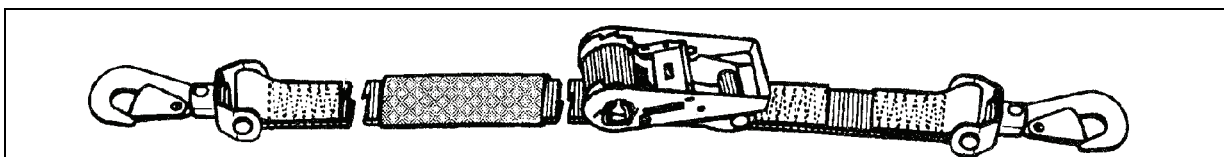

Figure 8-40. Special Webbing Strap (P/N 9392419)
- **Special Webbing Strap.** The 5,000-pound capacity special webbing strap (Figure 8-40) is similar to the CGU-1/B cargo tiedown strap. The main differences are the swivel hooks and the short strap attached to the ratchet device. Two moveable nylon sleeves on the 20-foot strap section can be positioned at chaffe points on the load to protect the strap from damage.